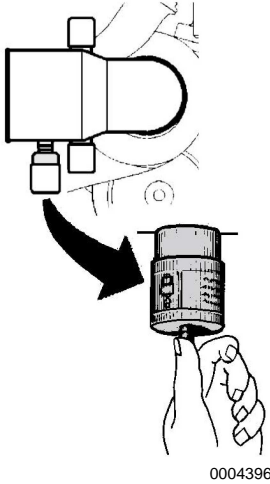

Figure 18
9. Press the button to reset the red plunger (Figure 18) in the restriction indicator.